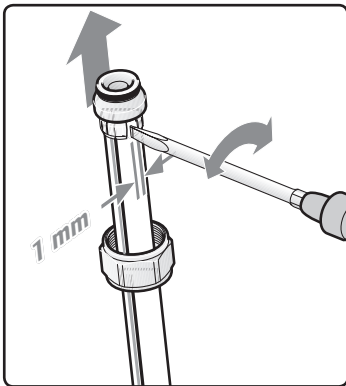

Figure 6-7: Use a Screwdriver to Open Clamp Ring and Remove Fitting
- If you need to remove a QS-style fitting from the tubing, use a screwdriver to open the clamp ring and remove the insert (see **Figure 6-7**).